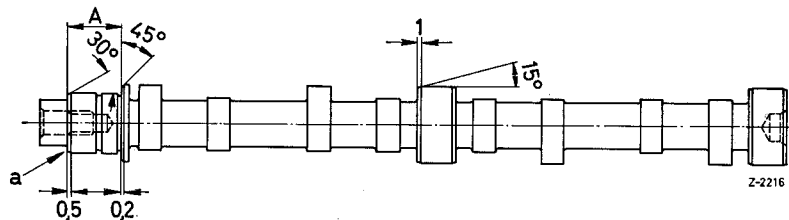

Figure 05-38/2
When re-grinding the 1st camshaft journal (1) the thrust surfaces (b) are generally only ground so much that a proper thrust surface is obtained (see Fig. 05-38/1).
**When regrinding the 1st bearing pin, do not regrind more than 0.1 mm from the lateral butting surface of the collar "b" (see Figure 05-38/2). The same amount of stock removal on collar "b" must also be ground off from surface "a" so that the measure 34.000 to 34.039 is adhered to. Otherwise the axial clearance of the camshaft and consequently the chain misalignment is too large. The lateral out-of-true on the surface "a" must not exceed 0.01 mm. After grinding of the camshaft**